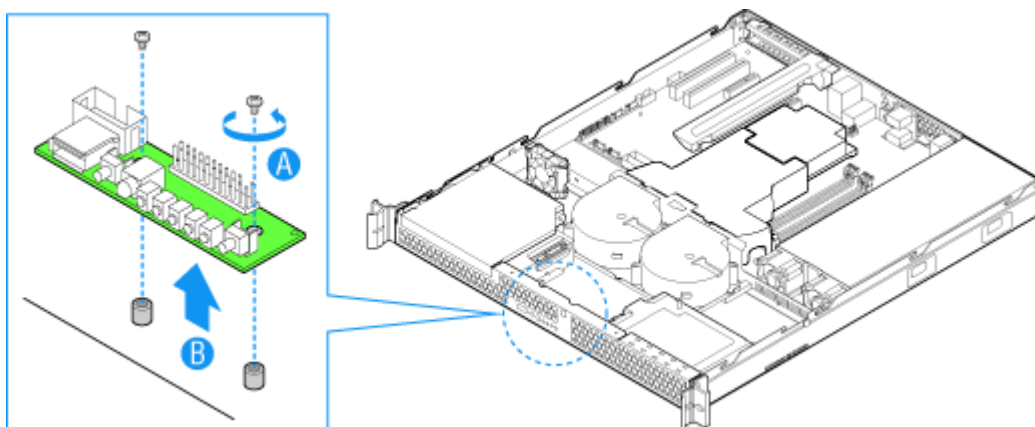

Figure 129: Removing the Front Panel Board
6. Remove the two screws that attach the front panel board to the server. See letter “A” in Figure 129.